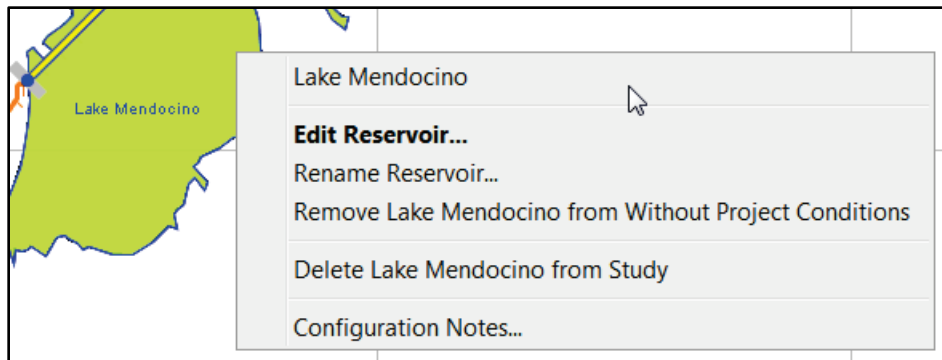

Figure G.7 Reservoir Shortcut Menu
study; and, create configuration notes for individual reservoirs. All of these tasks are accomplished through the reservoir shortcut menu (Figure G.7). To access the reservoir shortcut menu, from a schematic, and with the **Reservoir Tool** (on the map toolbar, press the **Reservoir Tool** ) selected, right-click on a reservoir.
1. Right-click on the reservoir whose properties need to be changed, and click **Edit Reservoir** from the reservoir shortcut menu (Figure G.7).
1. Right-click on the reservoir that needs to be renamed, and click **Rename Reservoir** from the reservoir shortcut menu (Figure G.7).
1. Right-click on the reservoir to be removed from the active schematic, and click **Remove ReservoirName from SchematicName** from the reservoir shortcut menu (Figure G.7).
1. Right-click on the reservoir to be deleted, and click **Delete ReservoirName from Study** from the reservoir shortcut menu (Figure G.7).
1. Right-click on the reservoir that you want to add schematic notes to, and click **Configuration Notes** from the reservoir shortcut menu (Figure G.7).